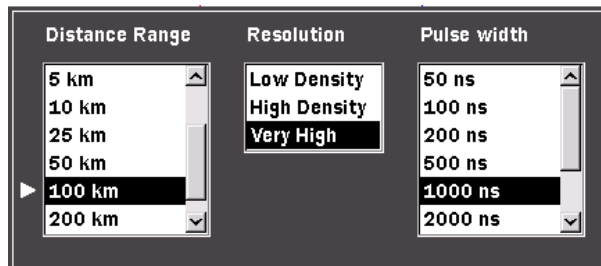

Figure 6-11: Range/Resolution/Pulse Width Dialog box
2. Press the **Enter key**. The Distance Range, Resolution, and Pulse width dialog box appears (see Figure 6-11).